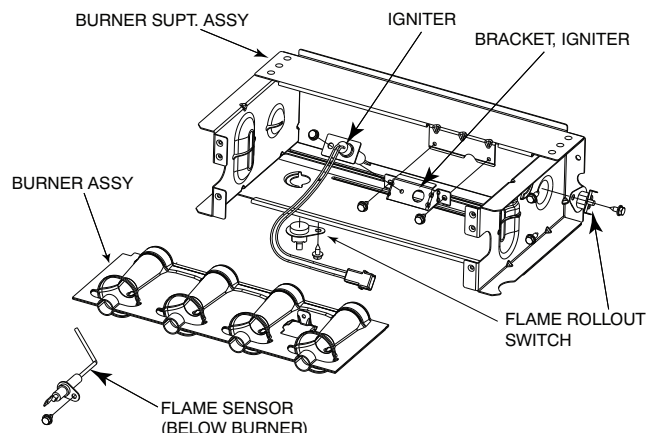

Fig. 64 - Burner Assembly
Refer to Fig. 64.
- a. Using a 1/4-in. driver, remove the two screws securing the igniter mounting bracket to the burner assembly. See Fig. 64.
6. To replace igniter and bracket assembly, reverse items 5a through 5d.
7. Reconnect igniter harness to the igniter, dressing the igniter wires to ensure there is no tension on the igniter itself. See Fig. 64.